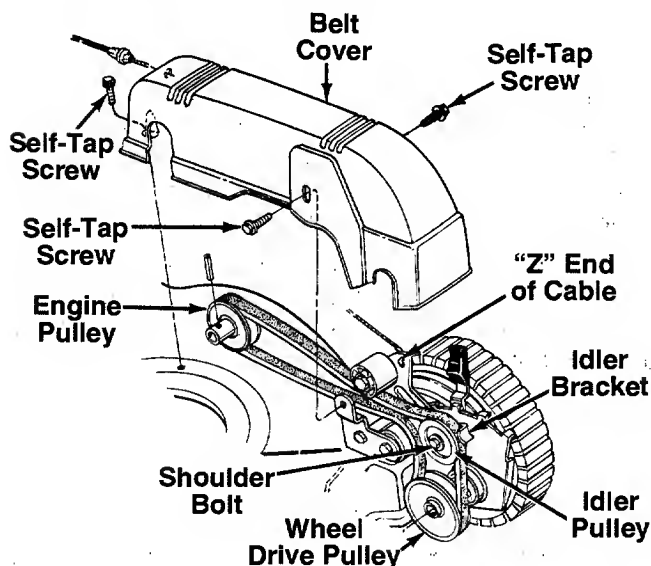

FIGURE 12.
4. Remove the belt cover by removing three self-tapping screws. See figure 12.
5. Unhook "Z" end of drive cable from idler bracket assembly. See figure 12.
6. Remove idler pulley from idler bracket by removing the shoulder bolt, flat washer, cupped washer and hex nut. See figure 12.